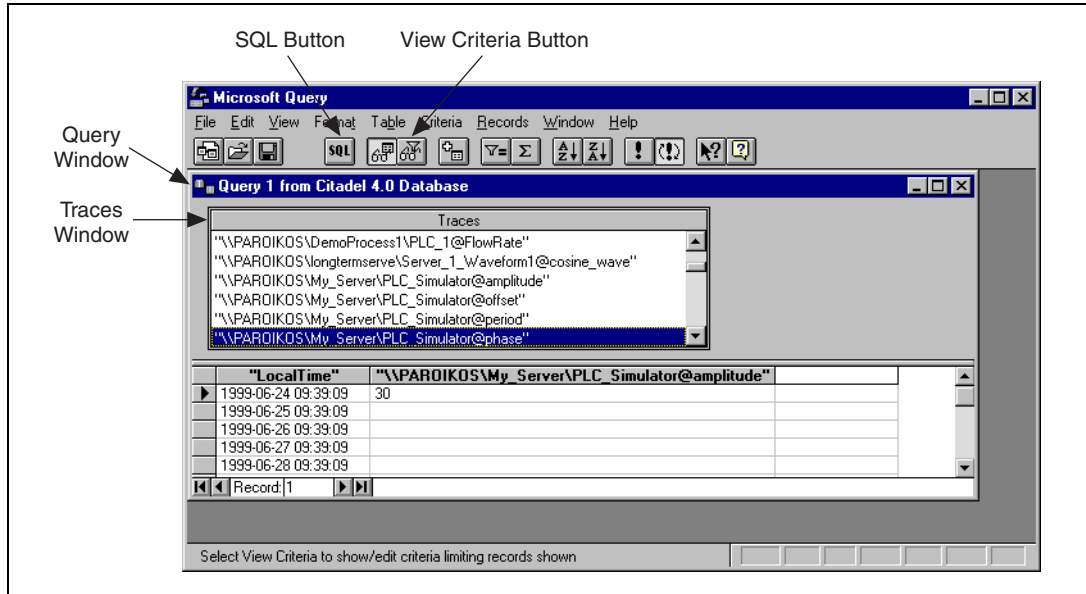

Figure A-1. The Query Window with Traces Table
6. To view a trace, double-click or drag the field you want to view to a blank column in the data pane. In Figure A-1, **LocalTime** and **"\\PAROIKOS\My_Server\PLC_Simulator@amplitude"** have been dragged down.
- The data set in Figure A-1 was retrieved using no specific criteria, so the ODBC driver used the default. Although there are several ways to specify criteria, this example uses the criteria pane.